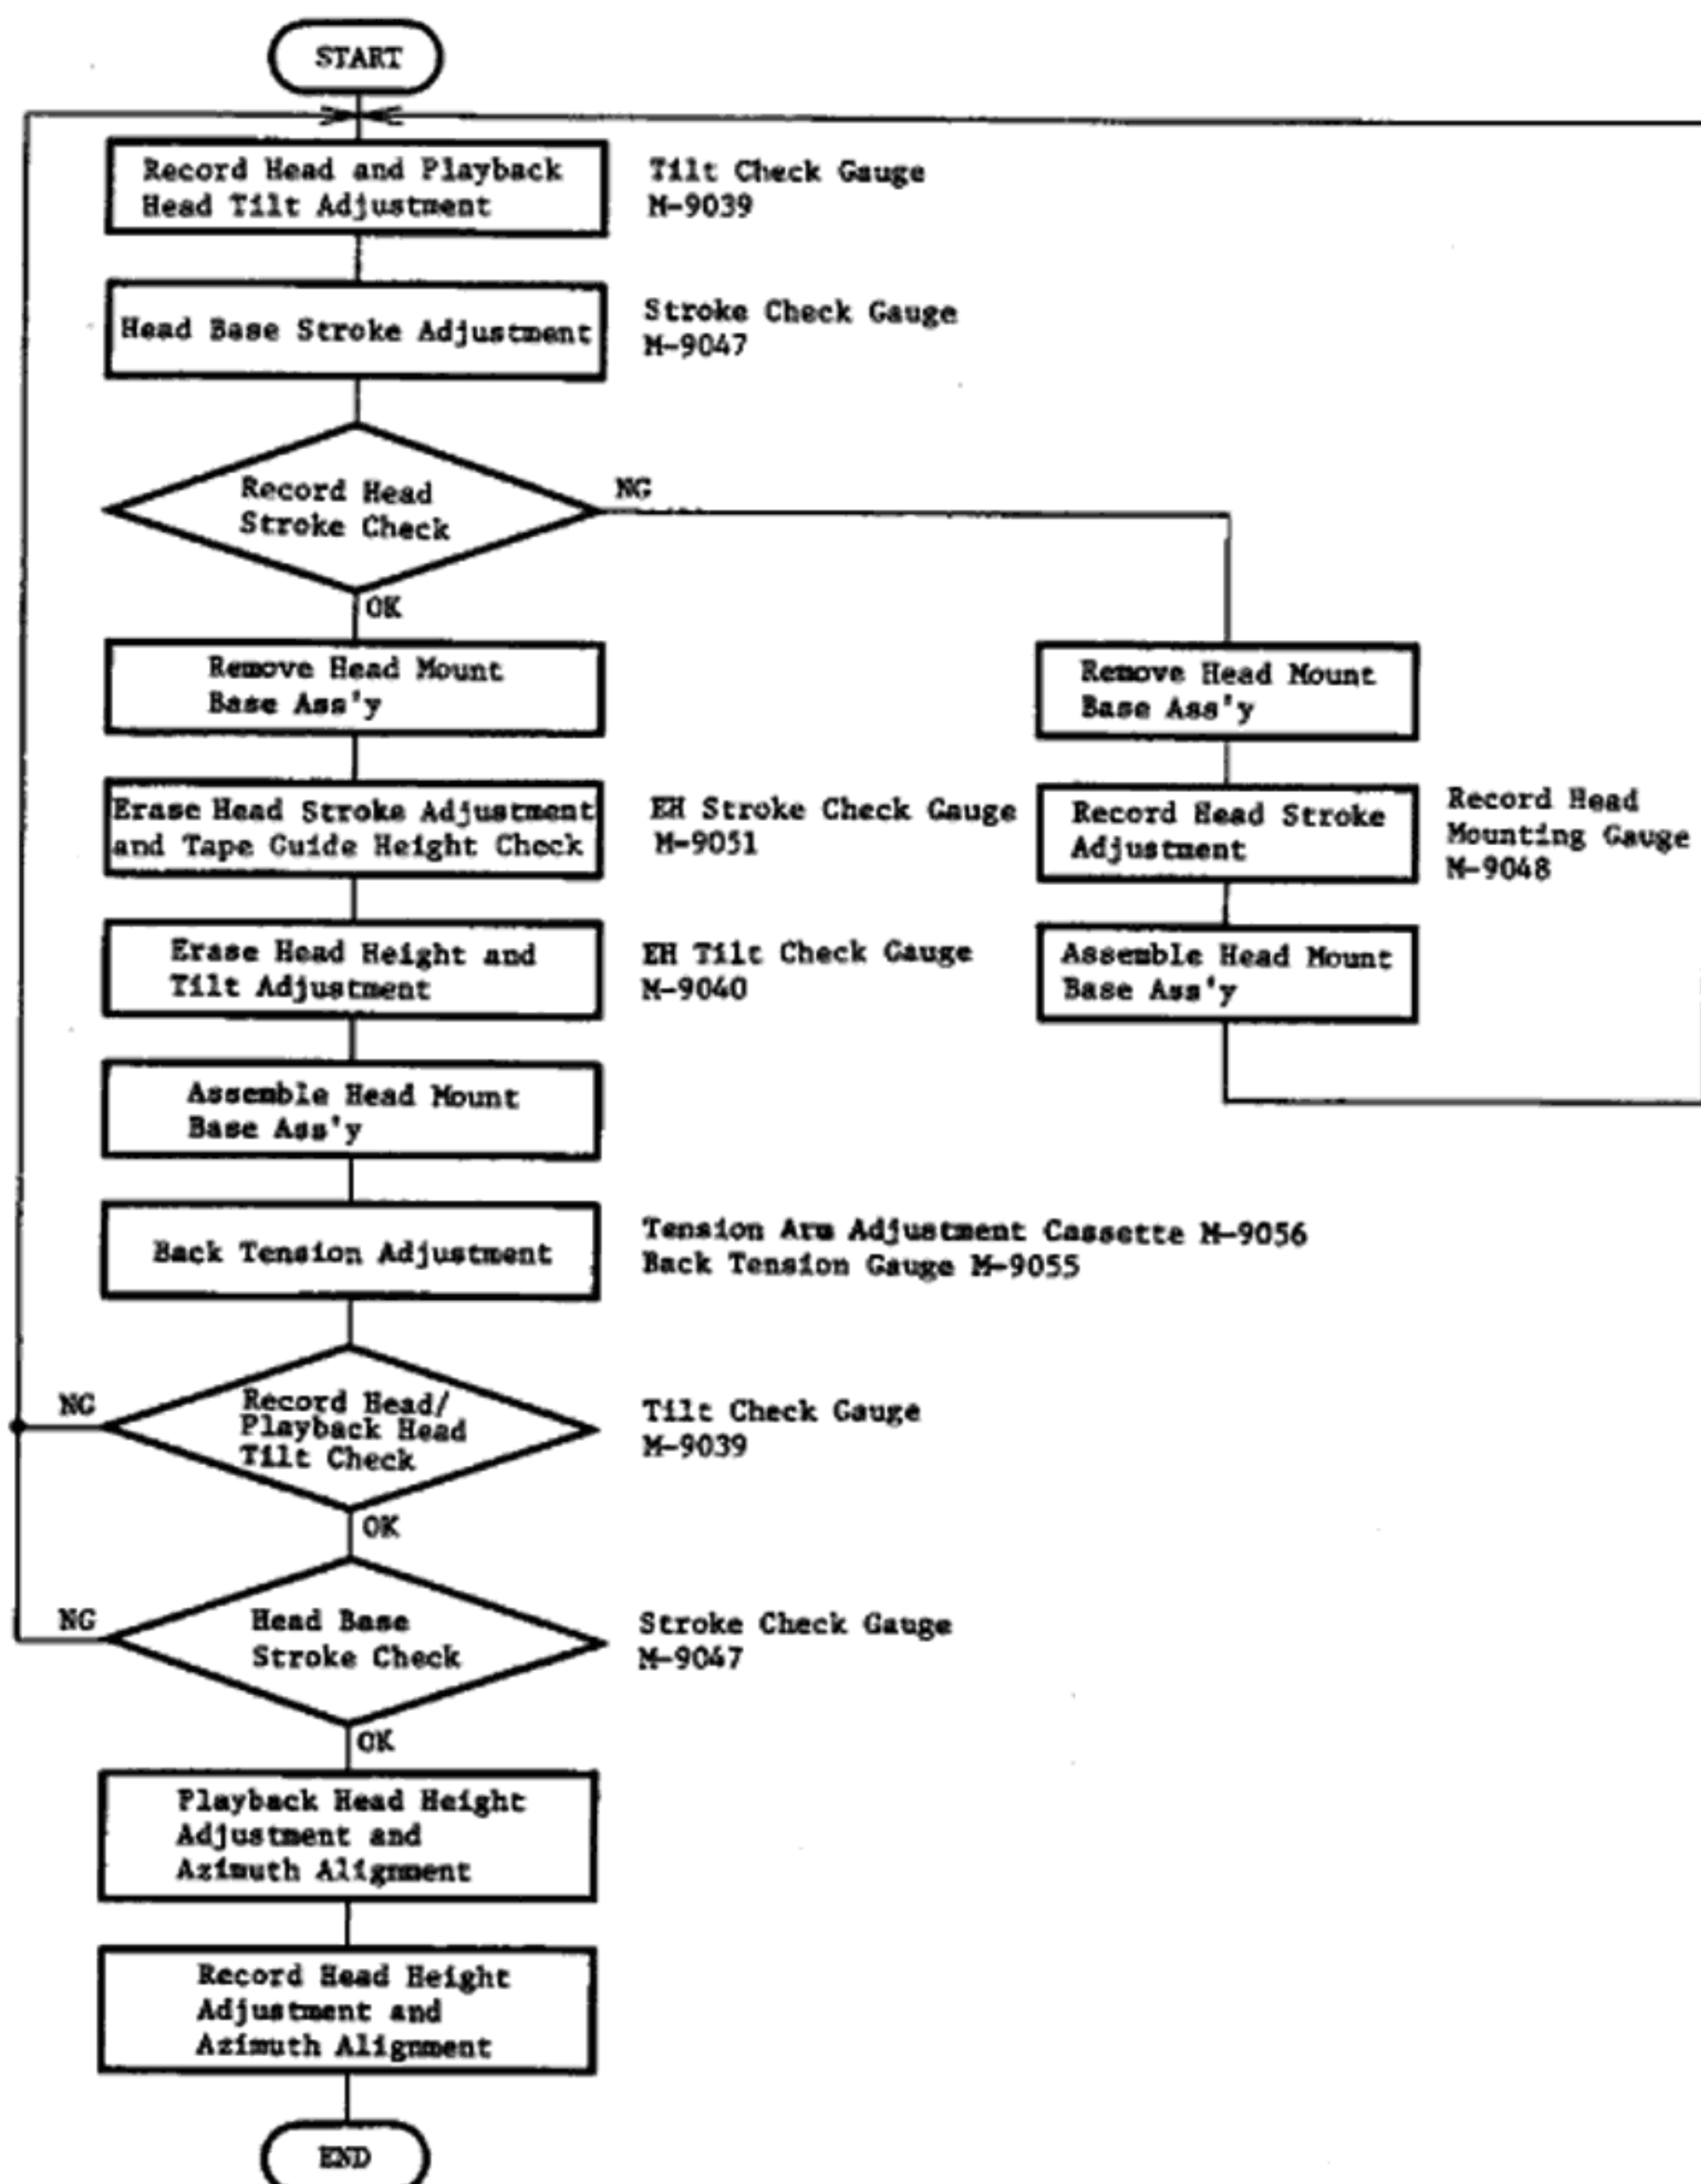
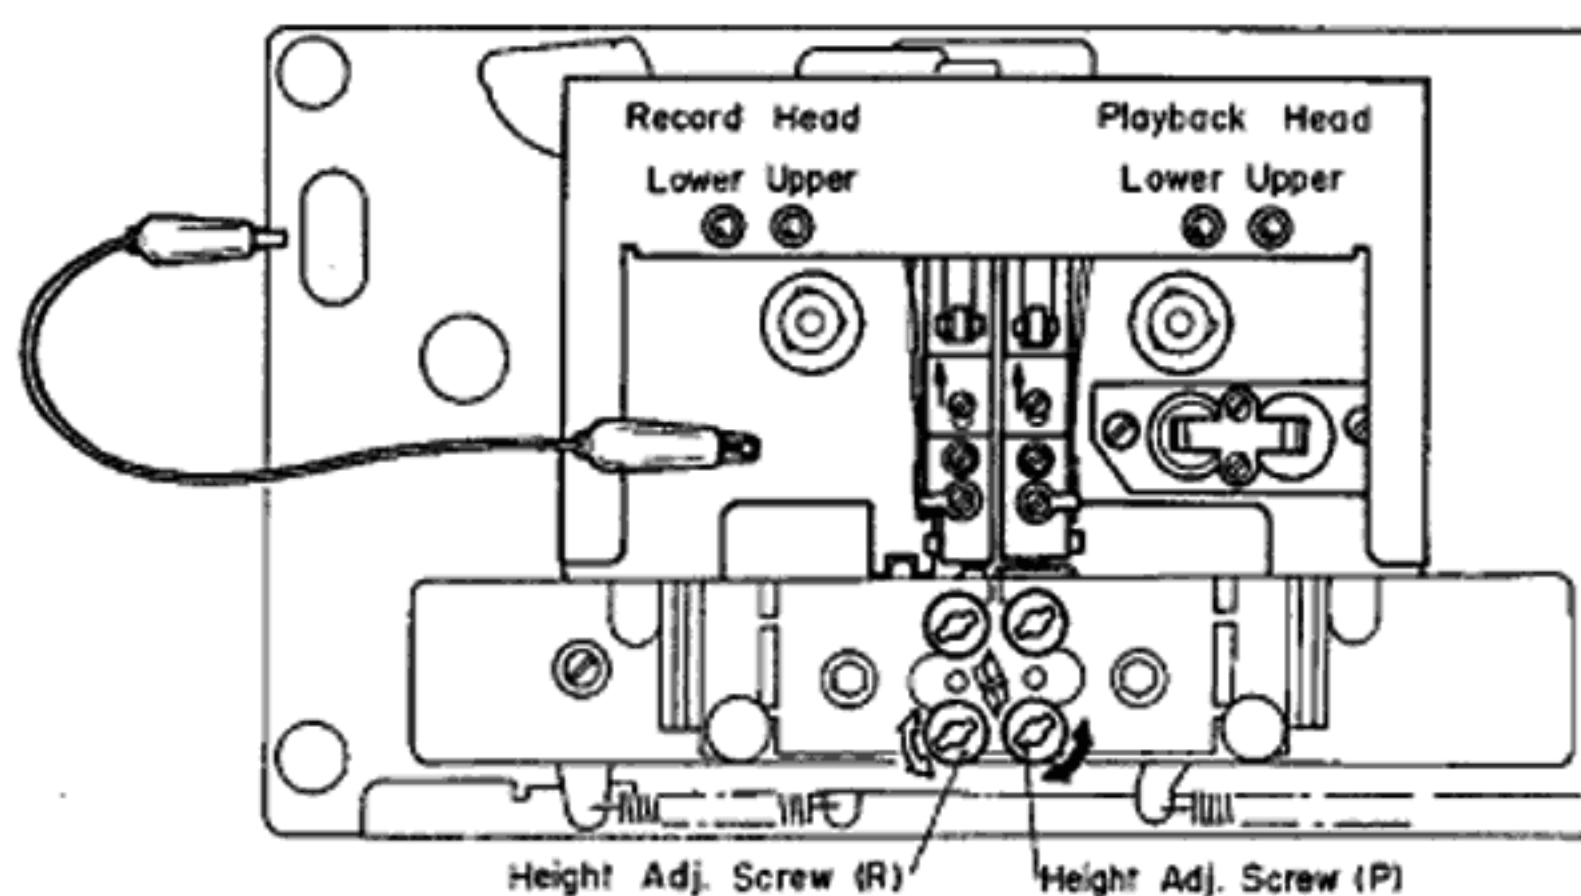

Fig. 4.4
Fig. 4.5
Note: On items 4.3 – 4.9, refer to Fig. 4.4 flow chart. Refer to Figs. 4.5 and 4.6.
- (1) Load a Tilt Check Gauge M-9039 (DA09039A) in the ZX-7.
- (2) Clip the grounding terminal of the Tilt Check Gauge with one end of the cord with clip, and the chassis of the ZX-7 with the other end.
- (3) Remove both of the Height Gears.
- (4) Set the ZX-7 in Play mode. Check to insure whether the Beacons Playback Head "Upper" or "Lower" and Record Head "Upper" or "Lower" are illuminating. In order not to give damages onto the head surfaces, push both of slide knobs of the Gauge to the direction of arrow marks, then return them to the original place to be in contact with record head and playback head surfaces after Play mode is securely locked.
- (5) Check to insure freedom from contact between the Gauge and pad lifter.
- (6) Beacon Playback Head "Lower" will light on when height adjustment screw (P) turned clockwise but Playback Head "Upper" when counterclockwise. Adjust so that both "Upper" and "Lower" will light on even when you move the slide knob to the direction of an arrow mark and then return them to the original place.
- (7) Same procedures will apply to the Beacons Record Head "Upper" and "Lower", except for the height adjustment screw (R).
- (8) Set the ZX-7 in Stop mode and fit both of the serrated Height Gears. Then set the ZX-7 again in Play mode and insure all of the 4 Beacons are illuminating. If not, (3) through (7) will have to be repeated till satisfactory results are obtained.